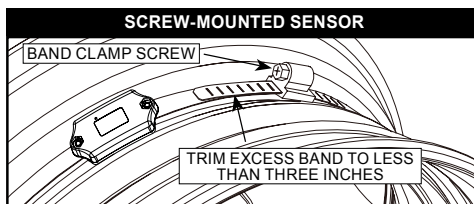

Figure 2: Screw-mounted Internal sensor final install
4. Put the sensor and sensor band in the **center position** (sometimes known as the "well") of the wheel hub. See Figure 2.
5. Tighten the band clamp on the wheel hub. Ensure sensor does not move laterally or rotate on wheel hub. See Figures 2, 4 and 5.
- 1) On **SCREW-MOUNTED SENSOR**, trim excess band. Do not let the trimmed end of the band protrude away from the wheel. See Figure 2.